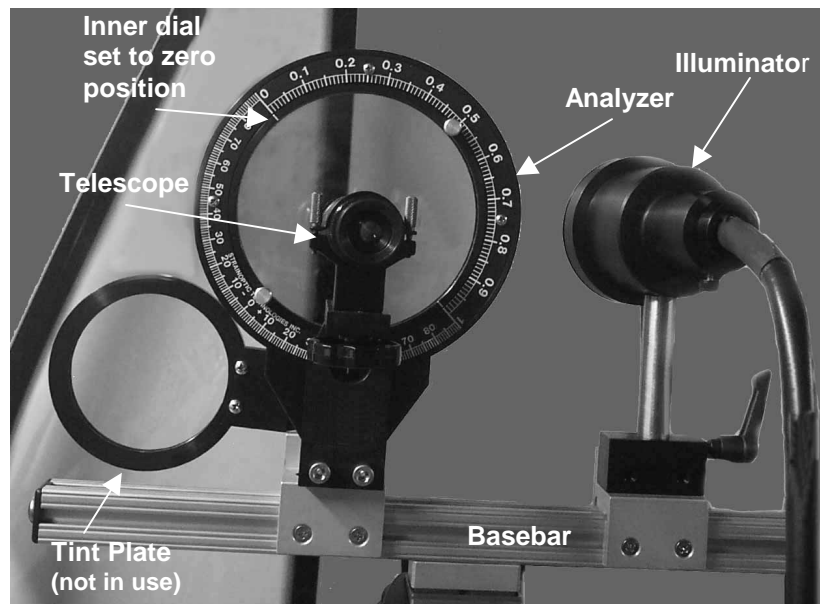

Figure 1. Typical setup for measurement in reflective mode.
2. After setting up the instrument on the tripod as described in the full instruction manual, align the basebar perpendicular to the edge of the sample at the point of interest (POI). Position the rotating analyzer dial as shown in Figure 1.